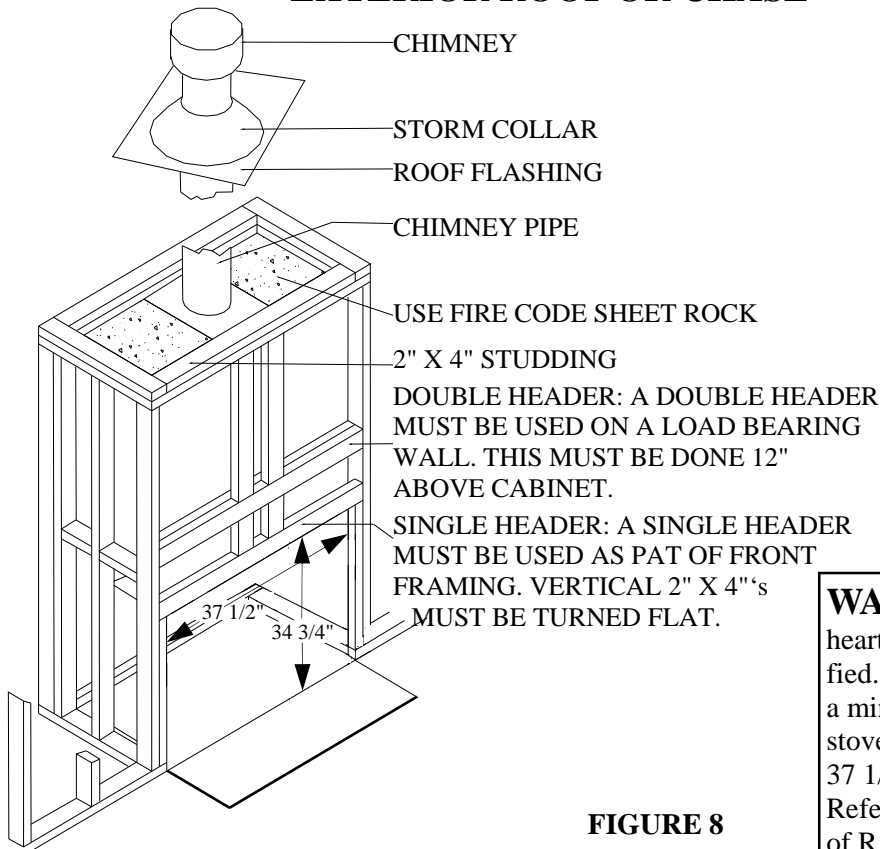

FIGURE 8
2. Set the Model 51ZC unit in place and attach the safety shield to the unit as shown in (Page 8 Figure 7-A) and Figure 7-B. You must use a non-combustible material or a UL listed floor protector R-Value 0.6 .(See Page 6) A minimum of 16" in front of stove door opening and 37 1/2" the width of the cabinet (See Figure 8)